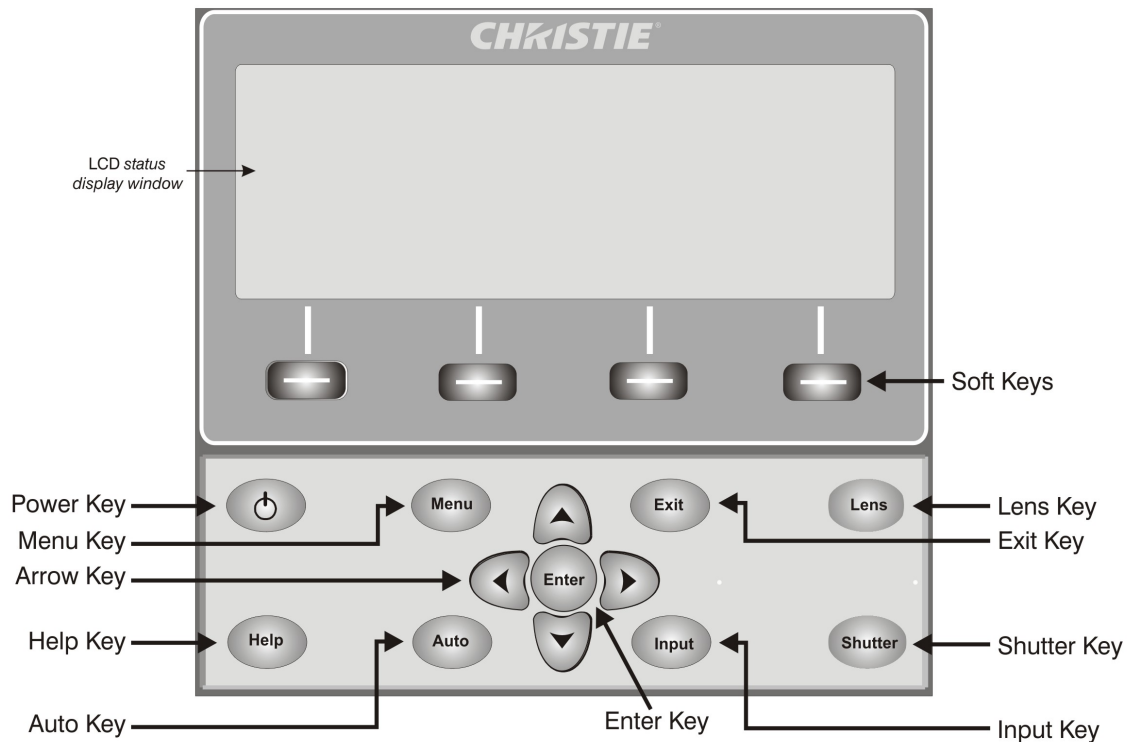

FIGURE 3-2 BUILT-IN KEYPAD
- **Built-in Keypad** located at the side of the projector, see Figure 3-2.